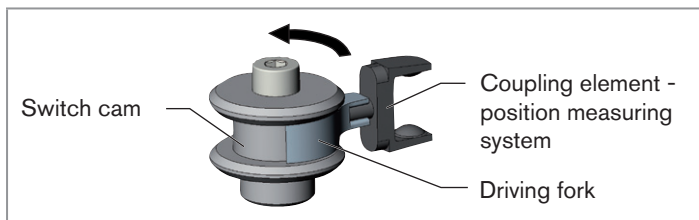

Fig. 3: Removing the driving fork
- Remove the driving fork from the coupling element of the position measuring system by turning a screw driver counter-clockwise (see "Fig. 3: Removing the driving fork").